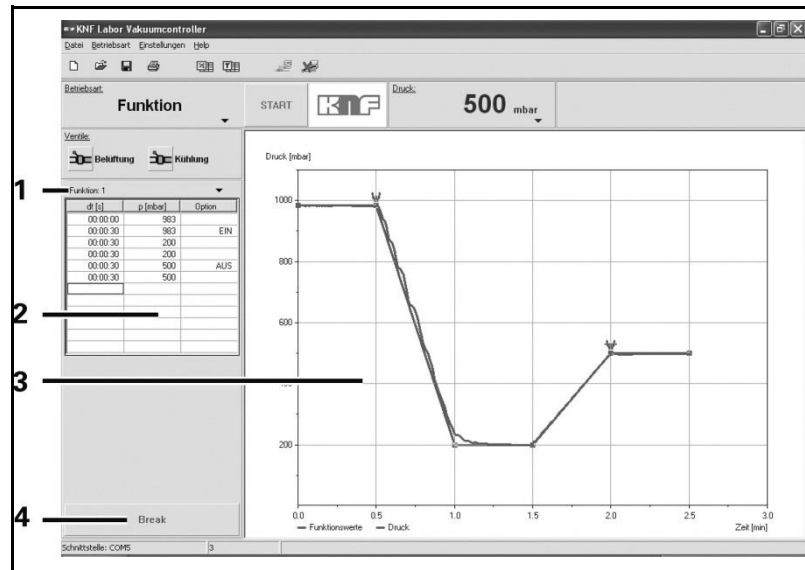

Fig. 2: Function mode
The values can be entered either through the table or through the chart (Fig. 2, page 6).
- i** Changes to the function values (data point table) are applied directly to the hand terminal. Up to 10 different data point tables can be stored and called as required. The number in the display (see Fig. 2/1) indicates the data point table that is currently selected.
From any operating mode, briefly press the *Break* button (Fig. 2/4) to switch to manual process control. The actual pressure will be adopted as the setpoint pressure.